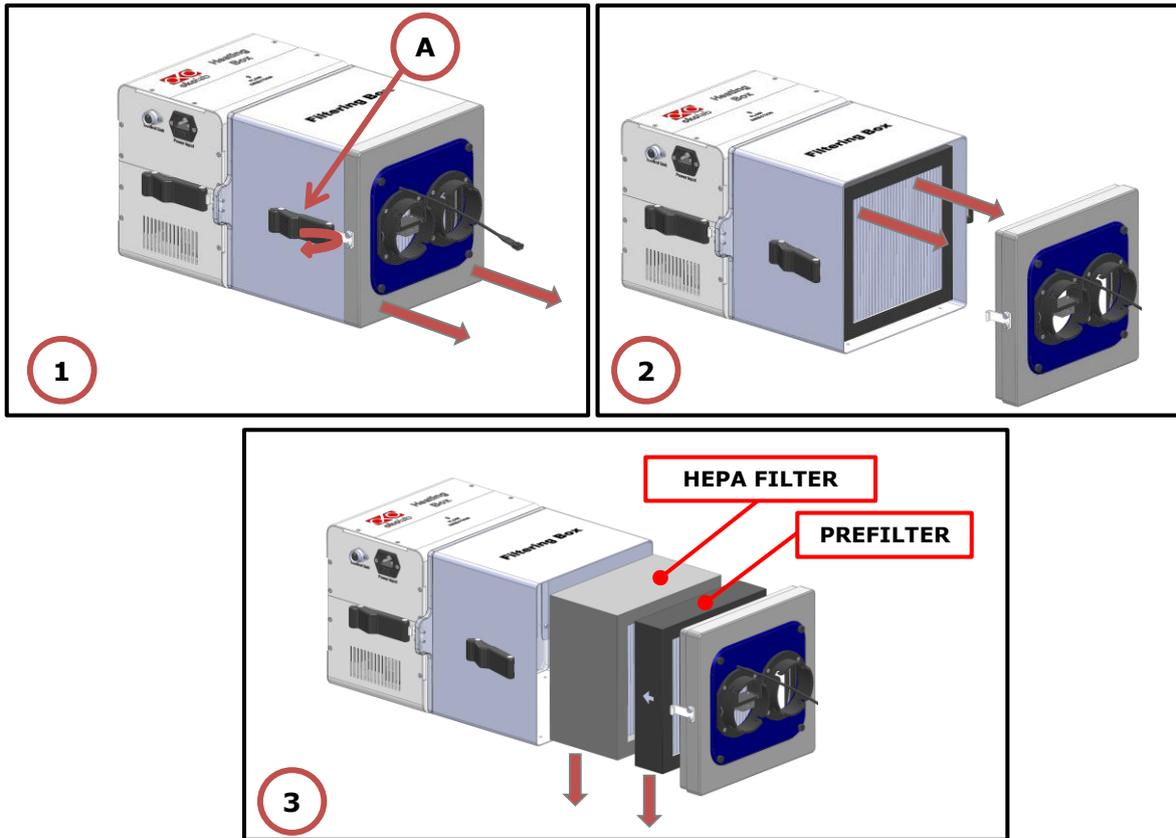

Figure 73. Filters Replacement
1. Open the two soft draw latches on the sides of the H201-FILTER-BOX, see A in Image 1 Figure 73
2. Slip off the frontal panel of the H201-FILTER-BOX and pull out the prefilter and HEPA filter. See Image 2 and 3 of Figure 73.